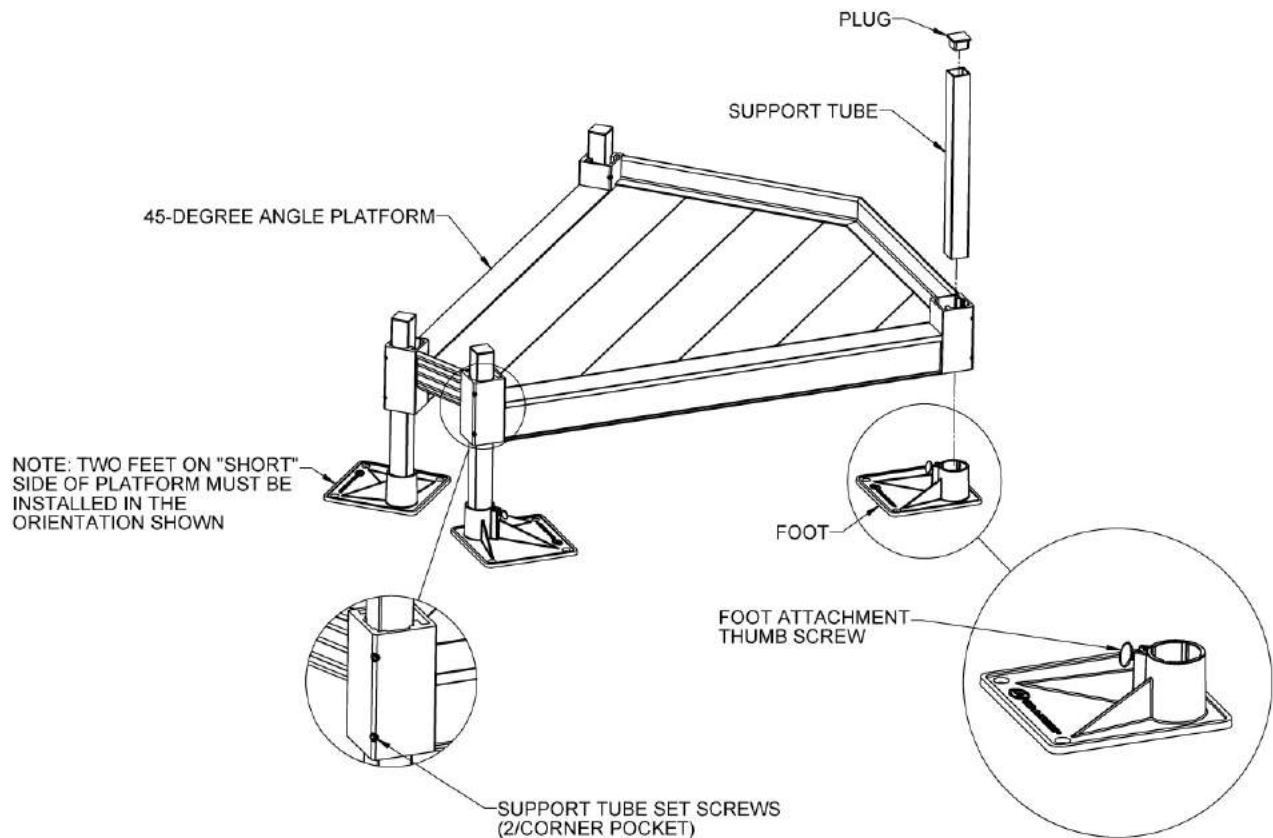

FIG. 2.8
2.4.2. Set platform on one of the sides where the ramp will attach and install legs and feet and adjust height as described previously in this section. The two legs on the short side must be installed in the orientation shown (FIG. 2.8)